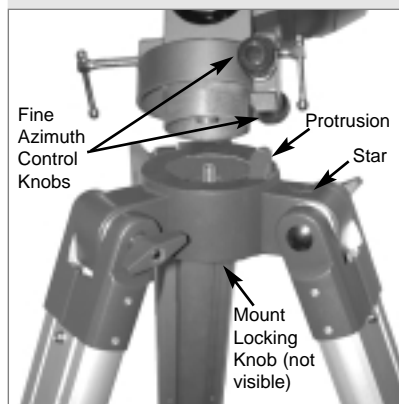

Fig. 5: Attach the mount to the tripod.
4. **Attach mount to tripod base:** Place the mount over the base of the tripod with the computer control panel positioned above the tripod leg marked with a star and with the protrusion on top of the tripod's base positioned between the fine azimuth control knobs. See **Fig. 5**. Back off the azimuth control knobs wide enough for protrusion to fit between them. Slide the hole in the center of the underside of the mount onto the captive mount locking bolt in the center of the base and tighten it by turning the knob below the base. Tighten to a firm feel.